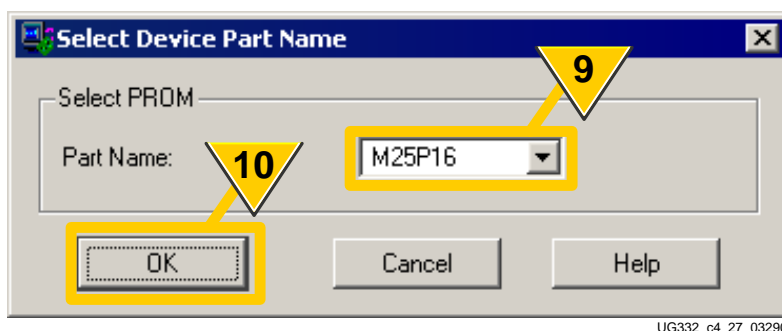

Figure 12-15: Select SPI Flash PROM Type
- Select the part number for the attached SPI Flash PROM, as shown in Figure 12-15.